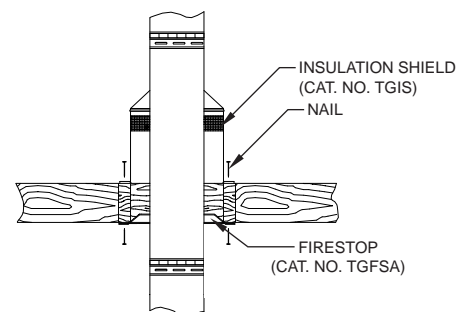

FIG. 4
7. The first chimney section through the joist area into attic is to be approximately two (2) feet. If the pipe sections in the attic are not enclosed, an insulation shield (TGIS) must be installed. Lower insulation shield (TGIS) over TG pipe until the flange is resting on the joist. Secure the TGIS in place by nailing the flange to the joist. See **FIG. 4**. **If the section within the attic area is to be chase enclosed**, the TGIS is not required.